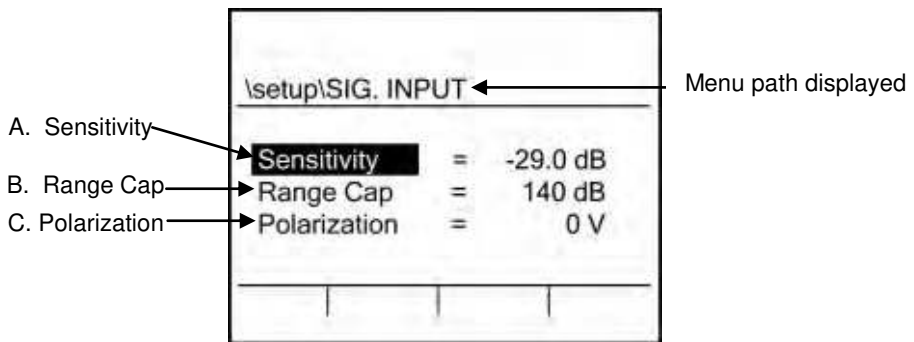

Figure 3-1: Microphone Settings (Signal Input screen)
4. Signal Input options are explained below (refer to Figure 3-1 above).